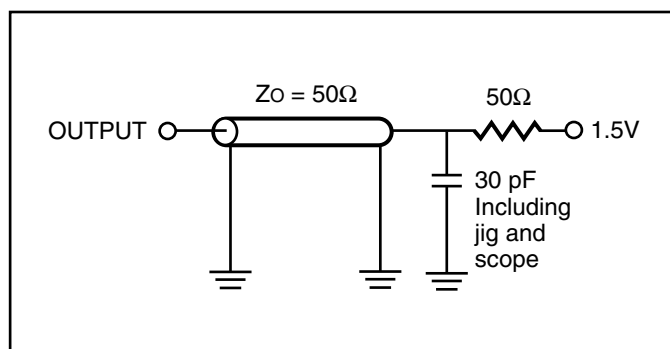

Figure 1.
| Output Load                                                  | See Figures 1 and 2   | See Figures 1 and 2     | See Figures 1 and 2   |
1. Test conditions assume signal transition times of 3 ns or less, timing reference levels of 1.5V, input pulse levels of 0V to 3.0V and output loading specified in Figure 1.